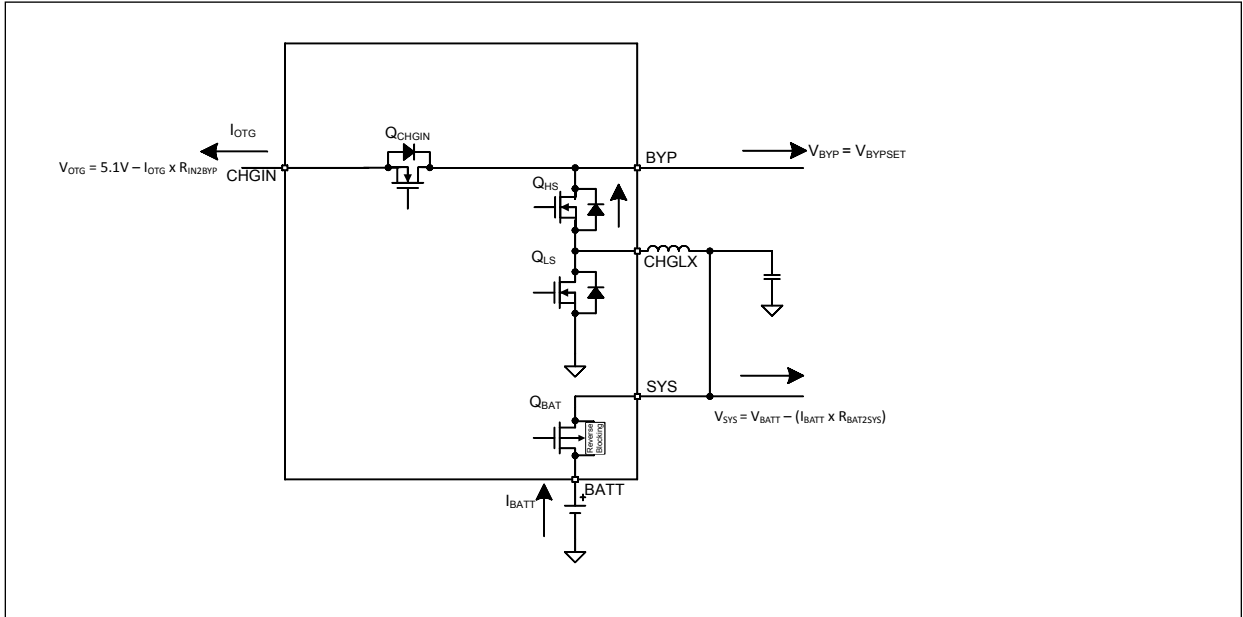

Figure 7. Battery-Boost (OTG)
- BATTERY-BOOST (OTG), MODE = 0x0A: OTG is active ($Q_{CHGIN} = \text{on}$). Battery is connected to support SYS and OTG loads ($Q_{BAT} = \text{on}$) and charger is operating in boost mode (boost = on), see Figure 7.